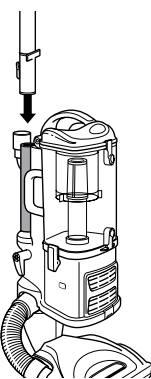

Fig. 8
- 3 Attach the end of the extension wand to the tube on the back of the Lift-Away canister until it clicks into place. (Fig. 8)